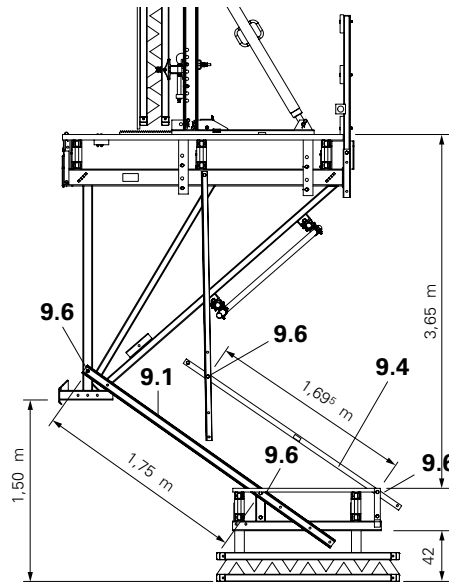

Fig. B1.28.1
4. Bolt Platform Post 225 (9.1) to Post Extension 180 (9.2) and fix at an angle with bolt (9.6) to the bracket and finishing platform. (Fig. B1.26) Depending on the concreting height, use top or bottom hole, see Fig B1.28.1 – B1.28.4.
5. Fix the Guardrail Post 190 (9.4) or Guardrail Post 370 (9.5) to Guardrail Post 200 (9.3) at an angle using bolt (9.6). Depending on the concreting height, use top or bottom hole, see Fig. B1.28.1 – B1.28.4. Mount wind bracing (6.3/7.3).
Working platform – finishing platform spacing: 3.65 m. Required free space: ≥ 42 cm. Mark out Platform Post CB 225 (9.1) and Guardrail Post CB 190 (9.4). (Fig. B1.28.1)